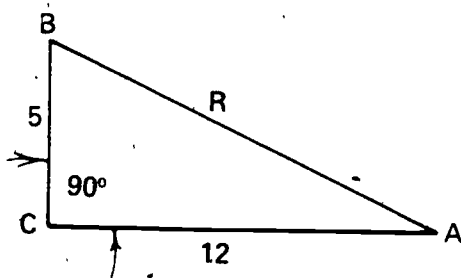

FIGURE 5
1. Find "R" distance using the following steps on the hand calculator: (Figure 5)